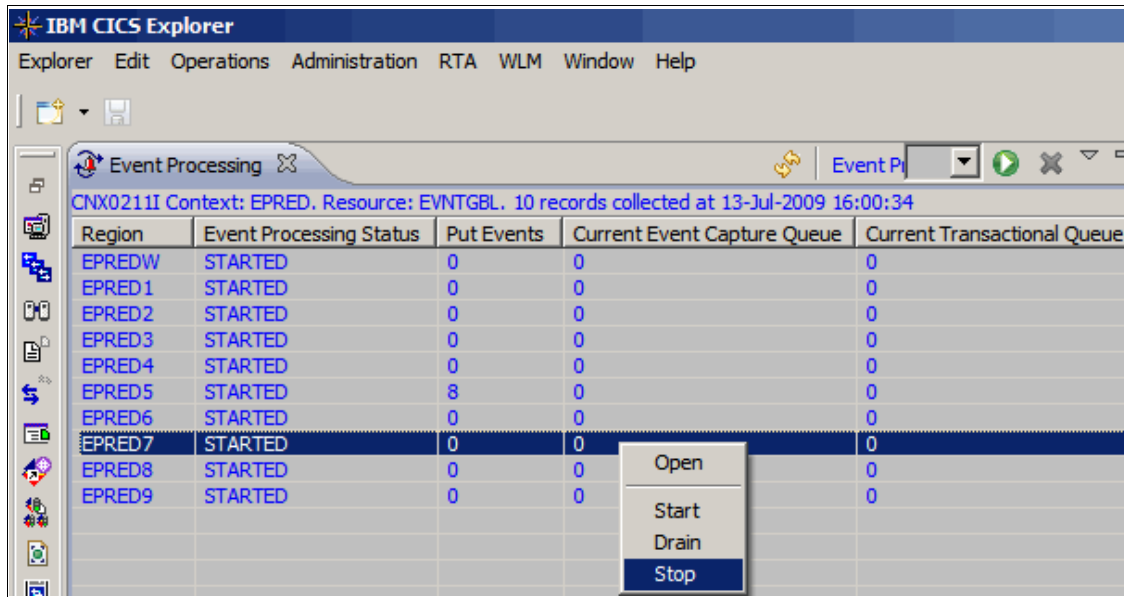

Figure 4-7 Stop event processing
3. Right-click to select the region on which you want to stop event processing and click **Stop**. See Figure 4-7 on page 65.